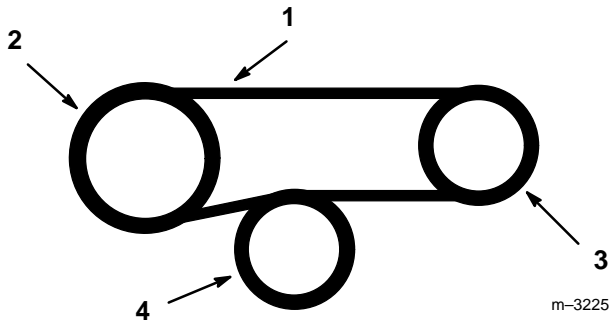

Figure 48
4. Install new PTO belts over clutch and route around gearbox pulleys and above spring loaded idler (Fig. 48).